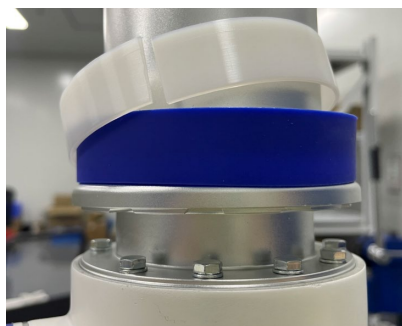

Figure 3-11 Remove the upper arm rubber ring and the supporting ring
- Gently remove the rubber ring and hang it around the upper arm. Then remove the supporting ring as shown in Figure 3-11: